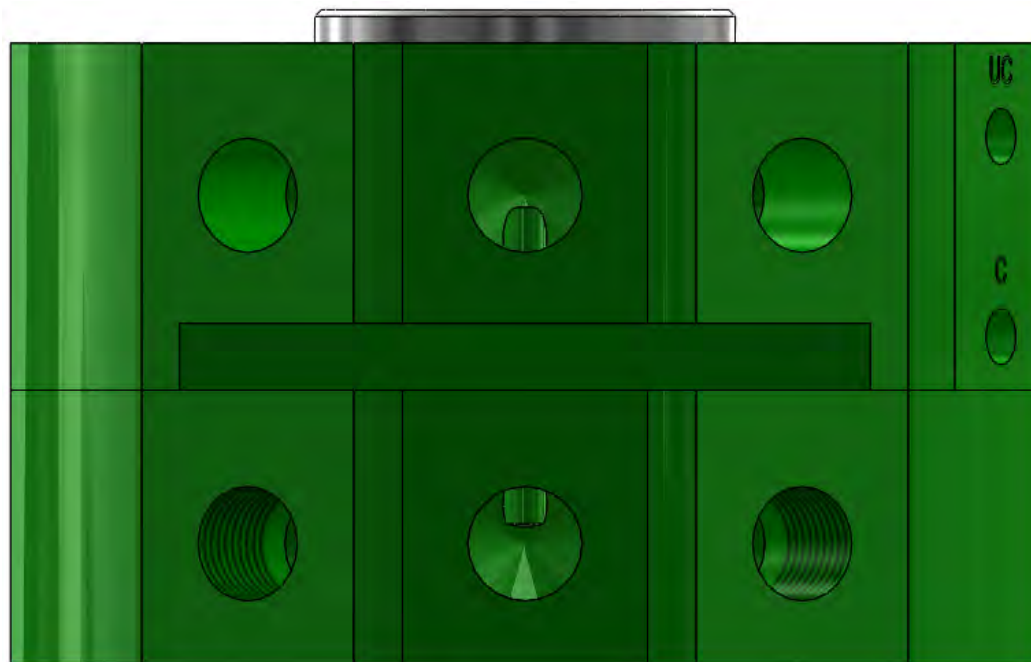

Figure 6.2-2. E50 Tool Changer – Docked Position
5. Stop the motion when the distance between the Robot Adaptor interface surface and Tool Adaptor interface surface are touching or as close as can reasonably be achieved. At this time, any electrical or fluid connections will be made through the use of available side modules. Note that when the interface surfaces of the Robot Adaptor and Tool Adaptor are in contact, the outer edge of the Adaptors should be touching (Figure 6.2-2).